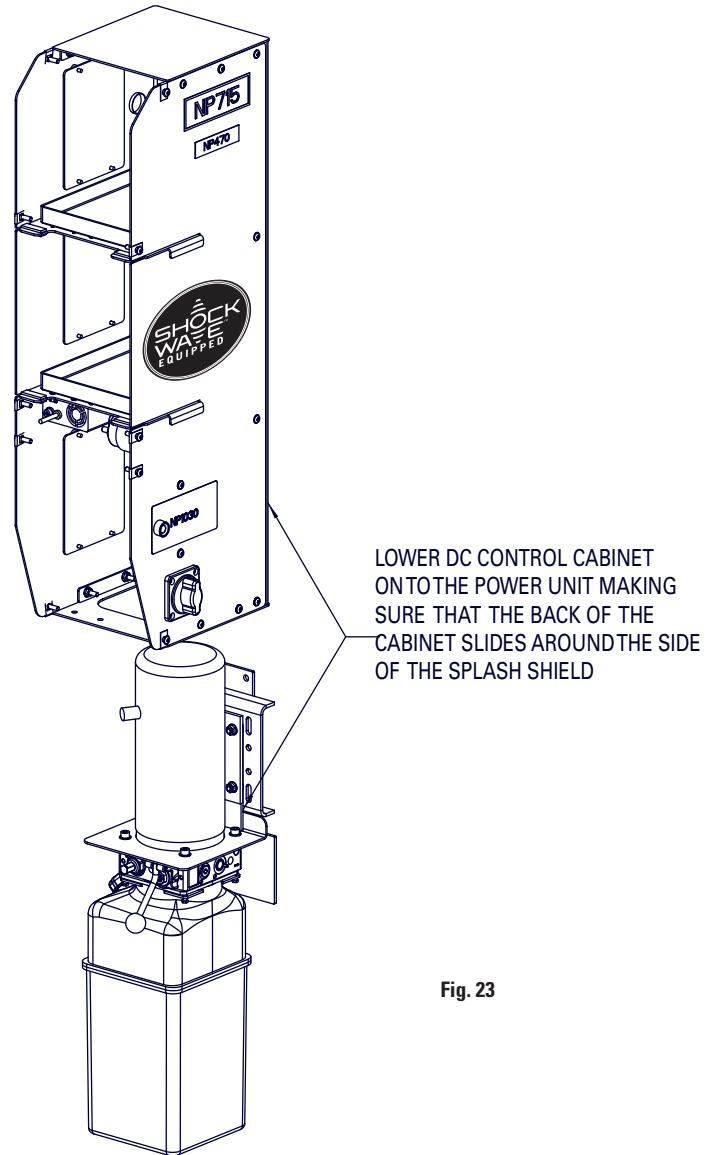

Fig. 23
- C. Remove the cable and latch bar nuts and washers from the top of the powerunit column. Mount DC control cabinet by sliding the cabinet from the top of the power unit. Slide the back wall of the cabinet around the power unit splash shield that is mounted between the motor and power unit bracket, Figure 23. Place mounting bracket over latch bar and cable studs.